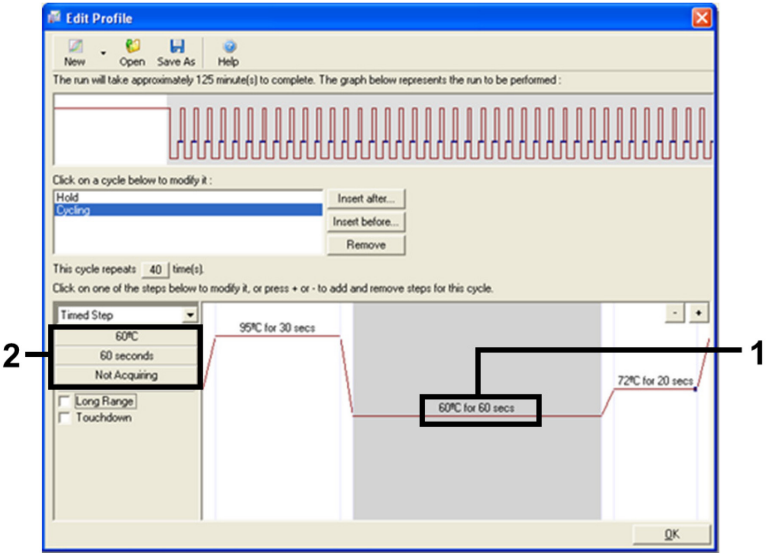

Figure 7. Cycling step at 60°C.
9. Highlight the second step and set to 60°C for 60 seconds. Enable data acquisition during this step by selecting “Not Acquiring” (Figure 7).